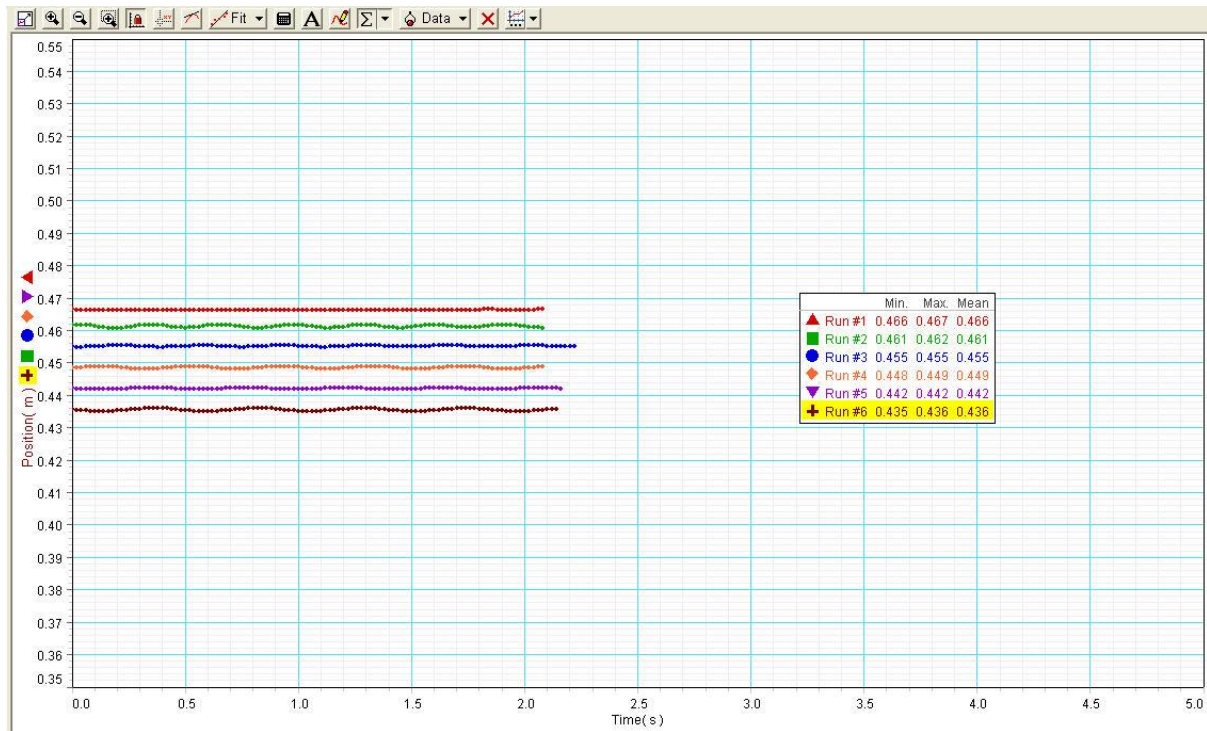

Figure 4
9. After completing all 6 runs, your data will look like Figure 4.